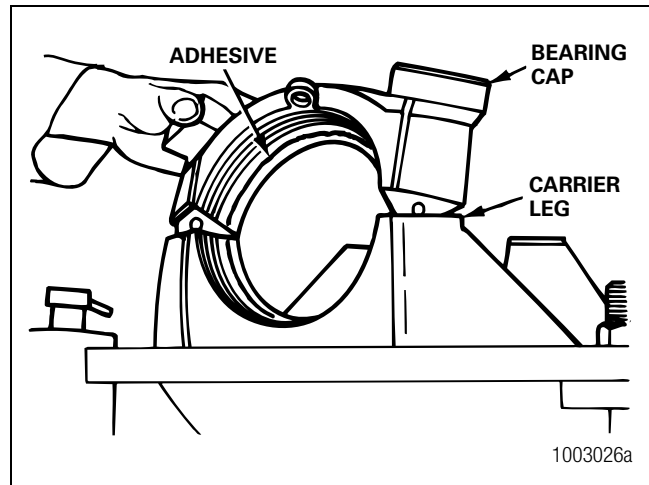

Figure 4.9
3. Apply a single continuous bead of the adhesive to the bearing bores in the carrier and bearing caps. Apply the adhesive around the circumference of the smooth, ground surfaces only. Do not place the adhesive on the threaded areas. Figure 4.9.